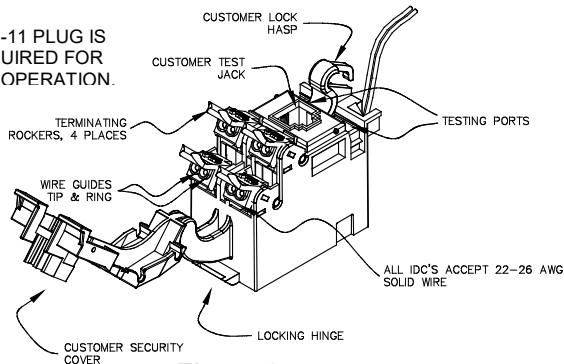

Figure 2
1. Four independent telephone pairs can be connected to a single CBM module. Customer has the option of installing a #10 Master lock in the customer lock hasp (See Figure 2).
2. When terminating the first pair to an IDC connection, always begin with the bottom terminating rockers (See Figure 2).
7. Lift all CBM rockers to the open position as shown (See Figure 2).
1. Hold the CBM module with the locking hinge facing you. (See Figure 2)